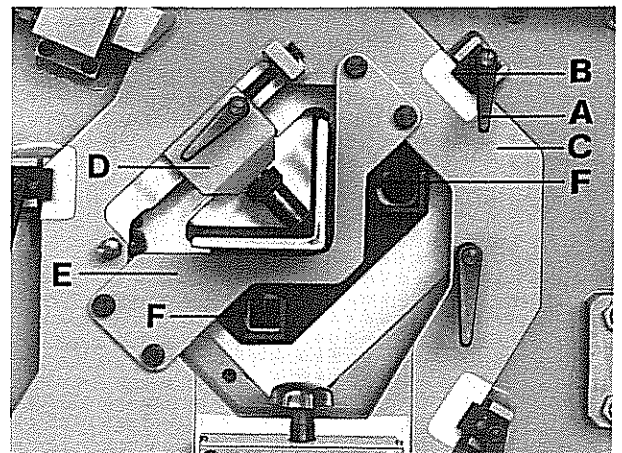

Fig. 47: Hold-down KBLH 500, 700 and 1000, design for blades for angles
- b) KBLH 500, 700 and 1000: Loosen clamping lever "A", push supporting brackets "B" outwards, and tighten. Swivel hold-down plate "C" to the front (Cf. fig. 47).
When using the combined blade for angles, round and square steel sections, push the appertaining pressure piece "D" onto the hold-down plate, and screw the hold-down rail "E" by the pressure screws "F" for round and square sections to the hold-down plate (See fig. 47).